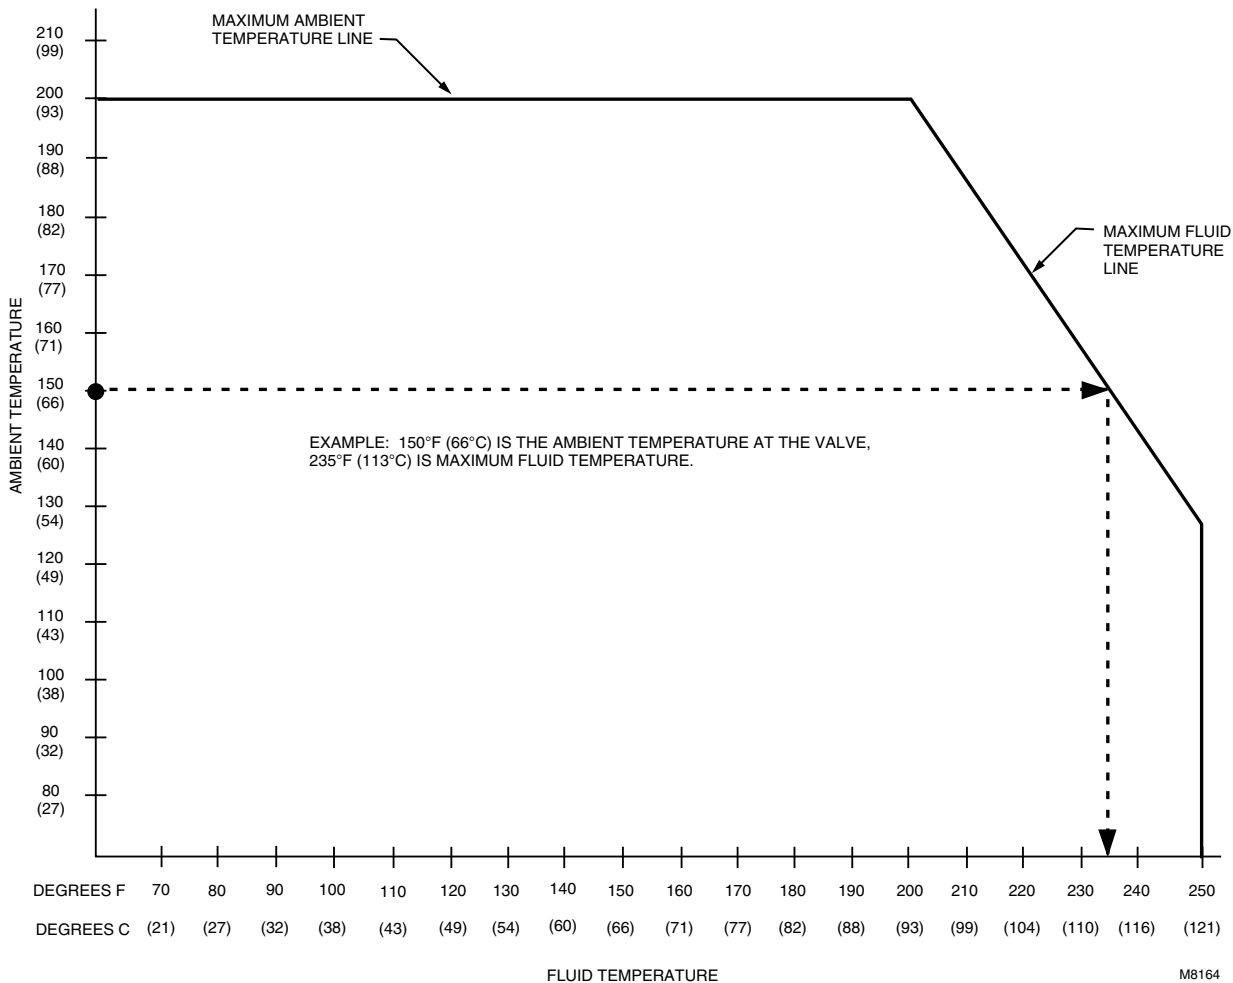

Fig. 2. Maximum temperature characteristics of valves with Class F motors.
The maximum operating temperature for motorized valves depends on the maximum ambient temperature at the valve location, and on the maximum fluid temperature. Using the graph in Fig. 2, find the maximum valve operating temperature as follows:
- 3 Draw a line from that point down to the fluid temperature scale to find the maximum operating temperature. (Note the example shown by the dashed line in Fig. 2.)